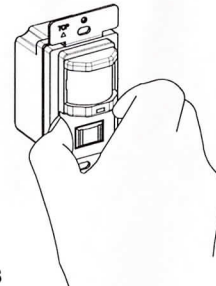

Figure 3
5. Remove the small cover plate. (Illustrated as Figure 3.)
6. Locate the adjustment knobs on the control panel to perform test and adjustment.(Illustrated as Figure 3.)